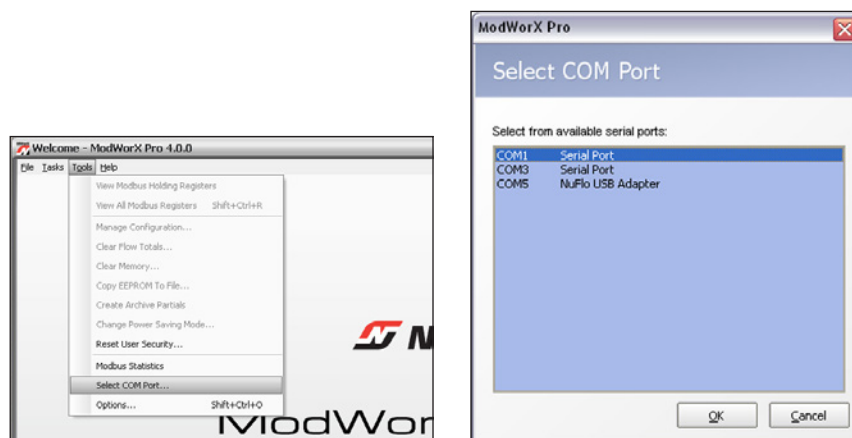

Figure A.15
3. Select a new COM port from the dropdown menu shown in Figure A.15. “NuFlo USB Adapter” will appear as a selection only if the NuFlo USB adapter is installed in your Scanner and the USB driver has been installed on the computer used to connect to the Scanner.